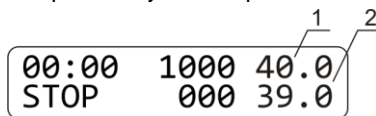

Figure 4. Display after calibration:
6.5 The display will show calibrated temperature as shown on fig. 4/1 and the unit will continue thermal stabilization according to the previously set temperature.